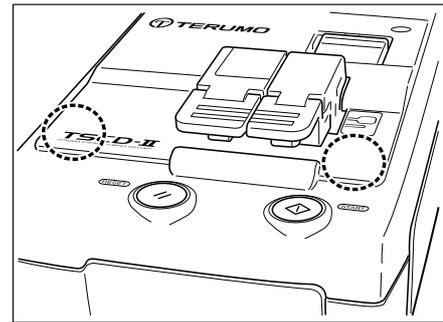

Figure 18
- Do not bring any magnetic sensitive equipment close to the parts on the TSCD[®]-II where the magnets are mounted (See Figure 18).